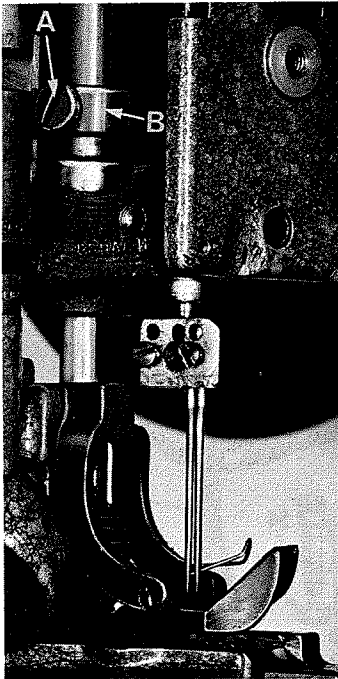

Fig. 10
The presser foot should be adjusted to clear the throat plate $1/8$ inch before the upper feed roller mechanism begins to rise. Loosen set screw (A, Fig. 10) in presser bar lifter and guide (B), raise or lower guide as required to attain the specified point at which the feed roller begins to rise. Retighten set screw (A).